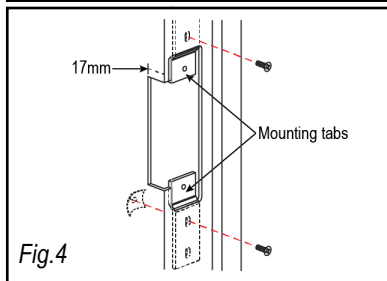

Fig.4
5. Using two of the included machine screws (narrow) and black clips, affix the mounting tabs to the inside of the door jamb (see fig. 4).